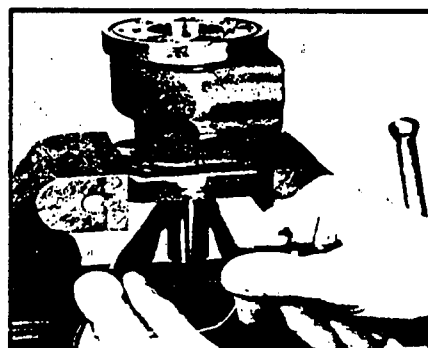

Figure 17
14. Check exposed portion of coupling shaft (11) to be sure you have removed all signs of rust and corrosion which might prevent its withdrawal through the seal. Crocus cloth or fine emery paper may be used. SEE FIGURE 17.